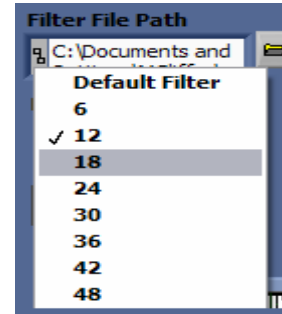

Figure 13. Number of coefficients to be sent to the AD7760/2 device.
- Select the number of coefficients that will be downloaded – this is half the filter length – so if you have a 24 tap filter you select 12 in the drop down selection shown in Figure 13.